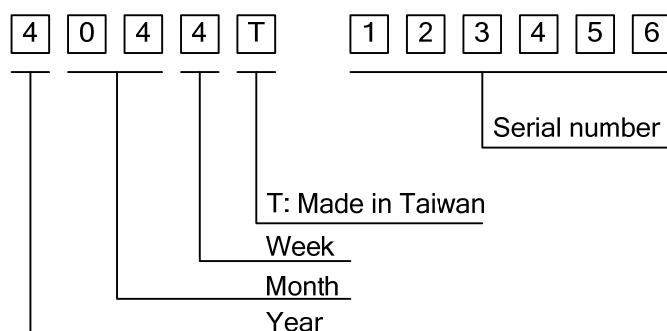

Fig. 9.1
- 1) The lot mark is showing in Fig.9.1. First 4 digits are used to represent production lot, T represented made in Taiwan, and the last 6 digits are the serial number.